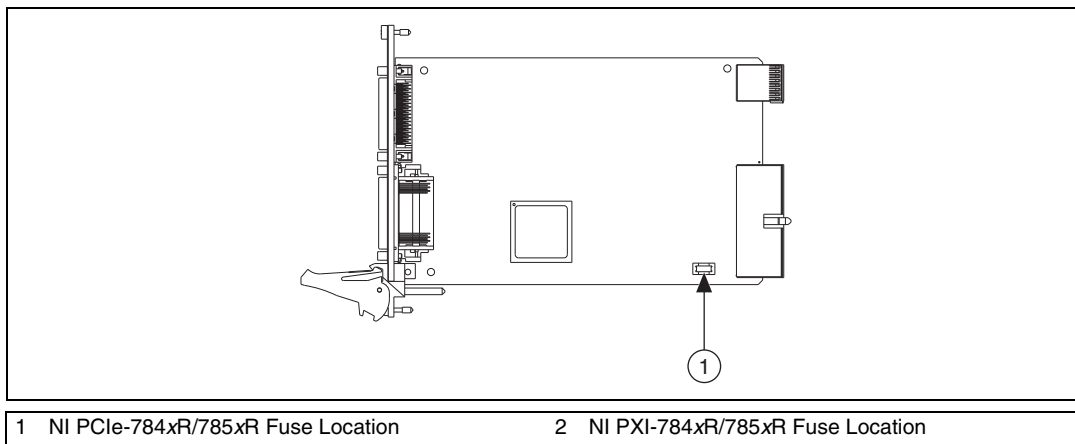

Figure 2-18. NI 784xR/785xR Replacement Fuse Location
- Replace the blown fuse while referring to Figure 2-18 for the fuse locations.